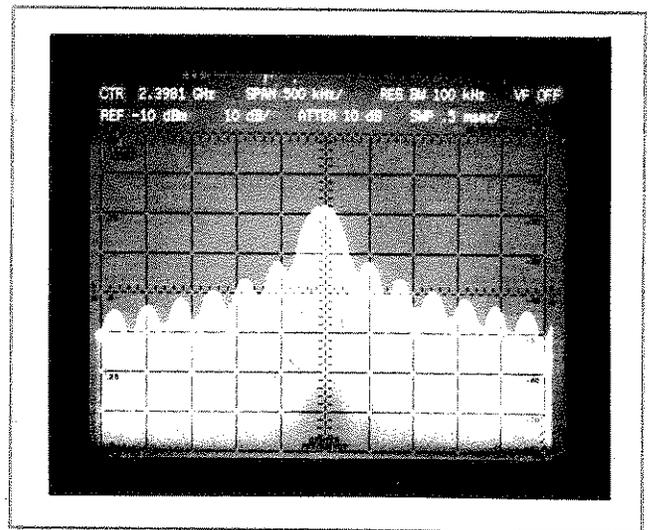
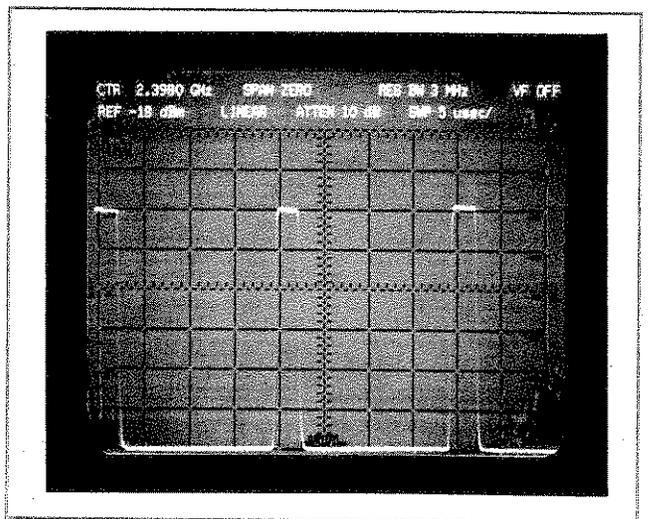

Figure 44. Pulse Spectrum
Figure 45. Demodulated Pulsed RF Signal in ZERO SPAN
Figure 44 illustrates a signal in the pulse spectrum mode. As with the line spectrum, the pulse width can be determined from the main lobe width, while the impulse bandwidth is a characteristic of the analyzer.
For a pulse width of $2.5 \mu\text{sec}$ and an impulse bandwidth of 150 kHz , $\alpha_p = -8$ dB. The peak pulse power of the signal shown in Figure 44 then, is -20 dBm.
Using the pulse spectrum enables a wider resolution bandwidth to be used. The wider resolution bandwidth provides two advantages: First, the signal to noise ratio is increased because the pulse amplitude increases linearly with the resolution bandwidth (BW) while random noise increases proportionally to the square root of the bandwidth ($\sqrt{\text{BW}}$). The only limitation is that the bandwidth should be no greater than about 5 percent of the main lobe width. Secondly, faster sweep times can be used because of the wider resolution bandwidths. The HP 8569A has a 3 MHz Resolution BW which enables it to effectively display pulsed RF signals in the pulse mode. The 3 MHz bandwidth, along with fast sweep times, also enables narrow pulse widths to be measured in the time domain. The demodulated pulse signal of Figure 44 is shown in Figure 45.